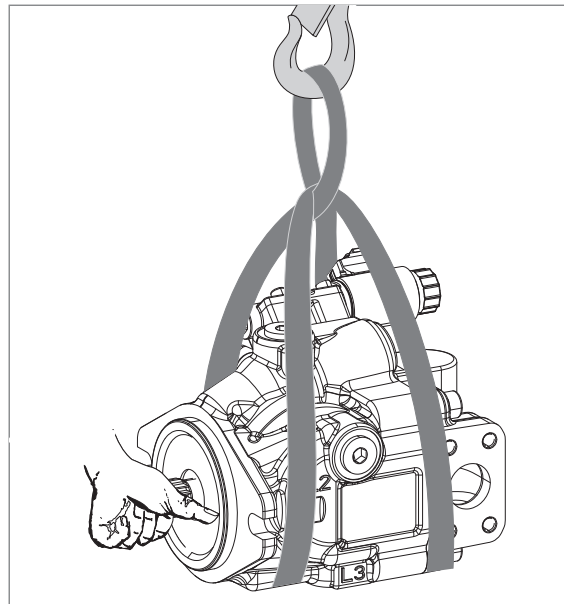

Fig. 4: Transport with lifting strap
- ▶ Place the lifting strap around the axial piston unit in such a way that it does not pass over assembled parts (e.g. valves, magnets, piping) and that the axial piston unit is not suspended from assembled parts (see Fig. 4).